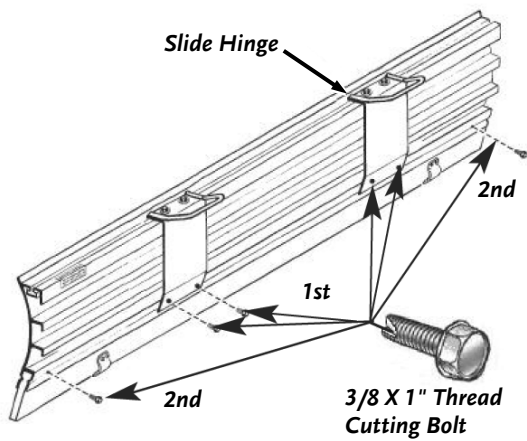

Figure 5
10. First, with rubber centered on blade, use both lower holes in each slide hinge as guide to drill 5/16" holes through first layer of aluminum and partially into rubber (**Figure 5**). Then turn 3/8" thread cutting bolt into each hole and tighten to secure each hinge.